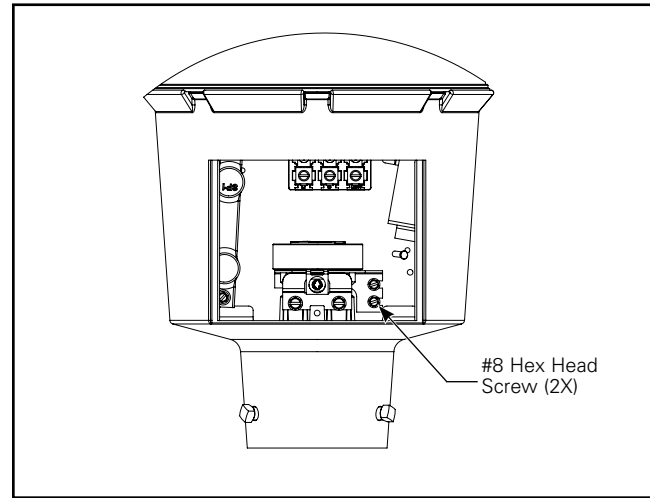

Figure 2.
4. For easy access to terminal block temporarily remove photo control bracket. Bracket may be removed by loosening two #8 hex head screws and lifting bracket away from power tray. (Figure 2)